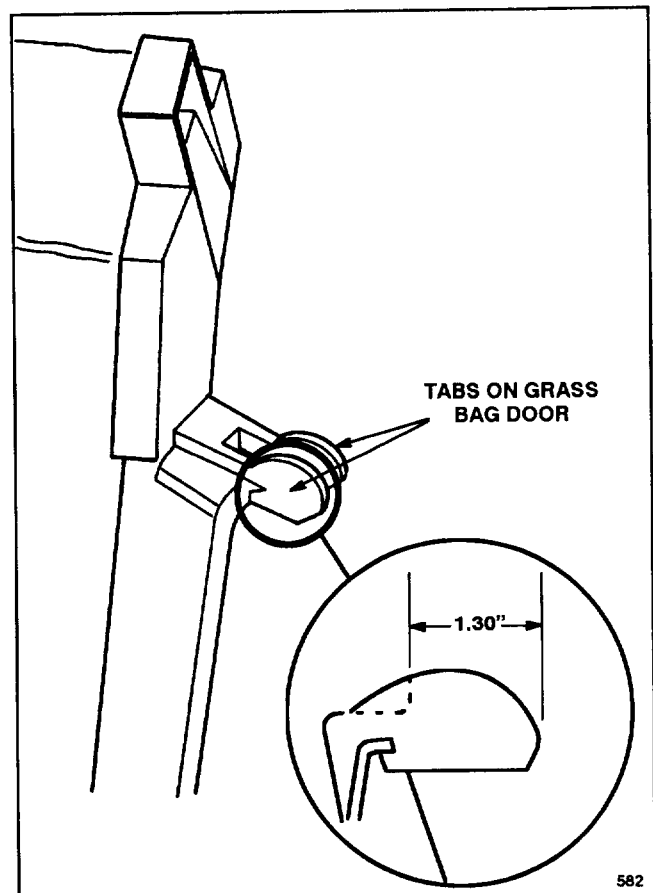
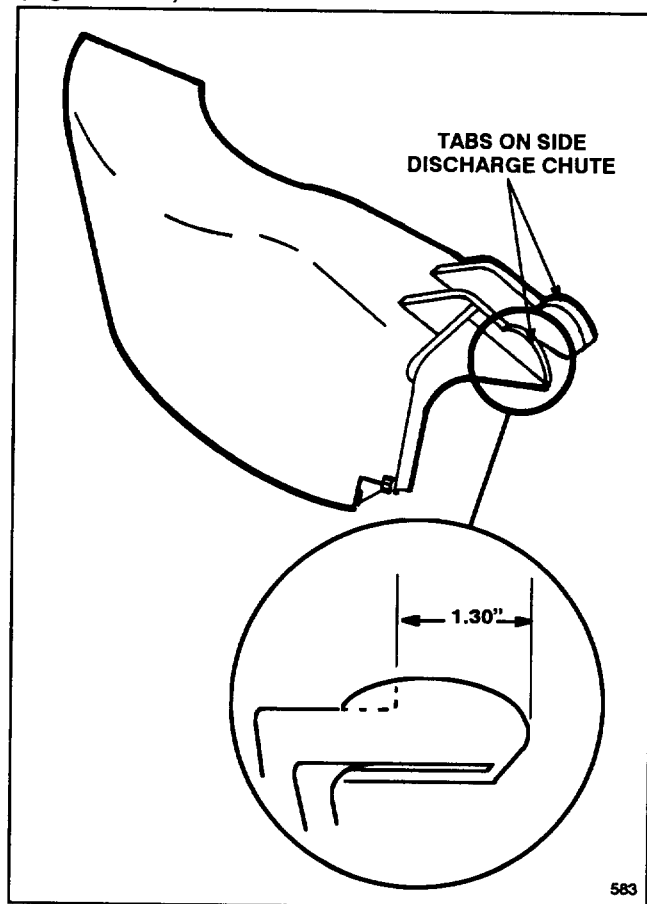

Figure 21
Figure 22
1. Measure a distance of 1.30 inches from the front tips of the grass bag tabs (Fig. 21) or side discharge chute tabs (Fig. 22).
2. Using a hacksaw, cut 90° angle notches in tabs (Fig. 21 & 22).